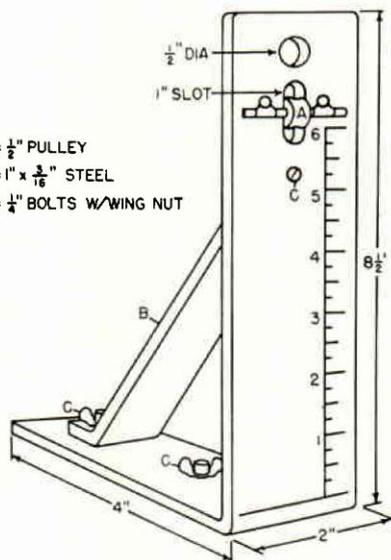
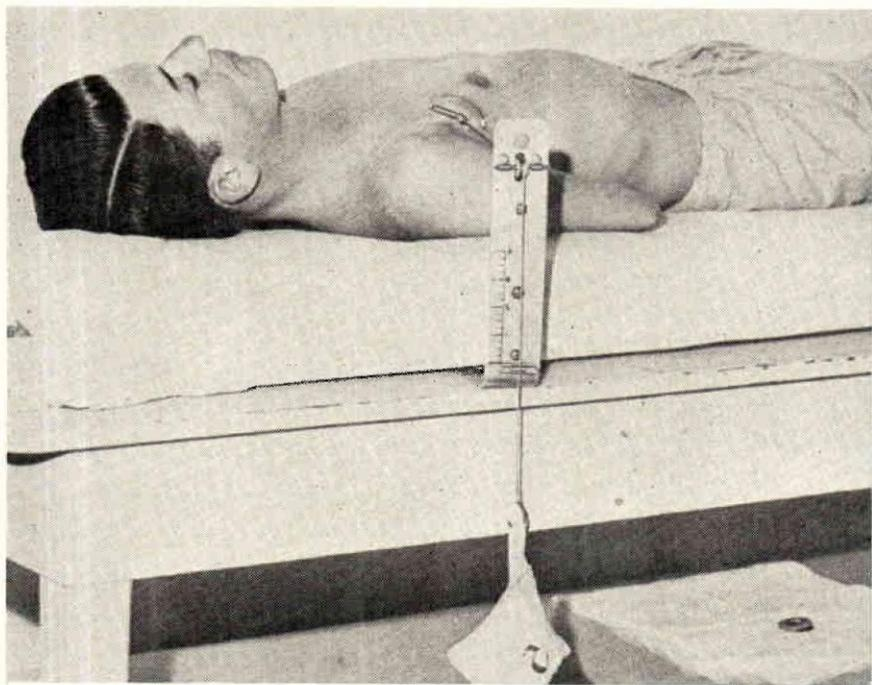

Fig. 1. Stretching and Resistance Unit.
Fig. 3. Patient Using Stretching and Resistance Unit. (Beginning of Muscle Contraction.)
*The resistance and stretching unit.* The hypertrophy of the muscle containing the "muscle motor" and the increase of the excursion of the "muscle pin" are obtained by using the unit shown in Figure 1. The unit is depicted in use by a patient in Figures 3 and 4.